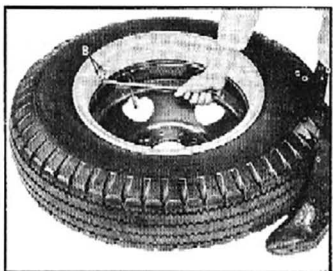

Fig. 85—Disengaging Side Ring From Rim Gutter
3. Insert straight end of tire iron into operating notch located at double pimples "B" (fig. 85).